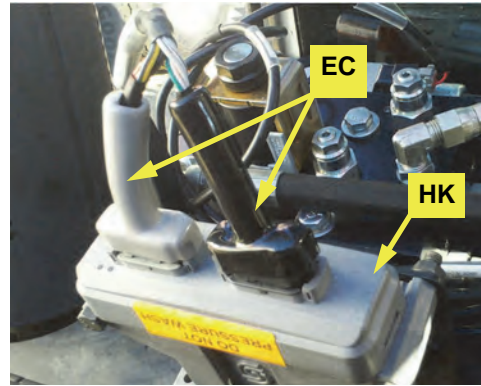

Figure 2b: Steering controller's two 12-pin connections
- b. Connect steering controller cable **EC**'s two 12-pin connectors (black and gray) to their respective sockets on the steering controller **HK** (Figure 2b).